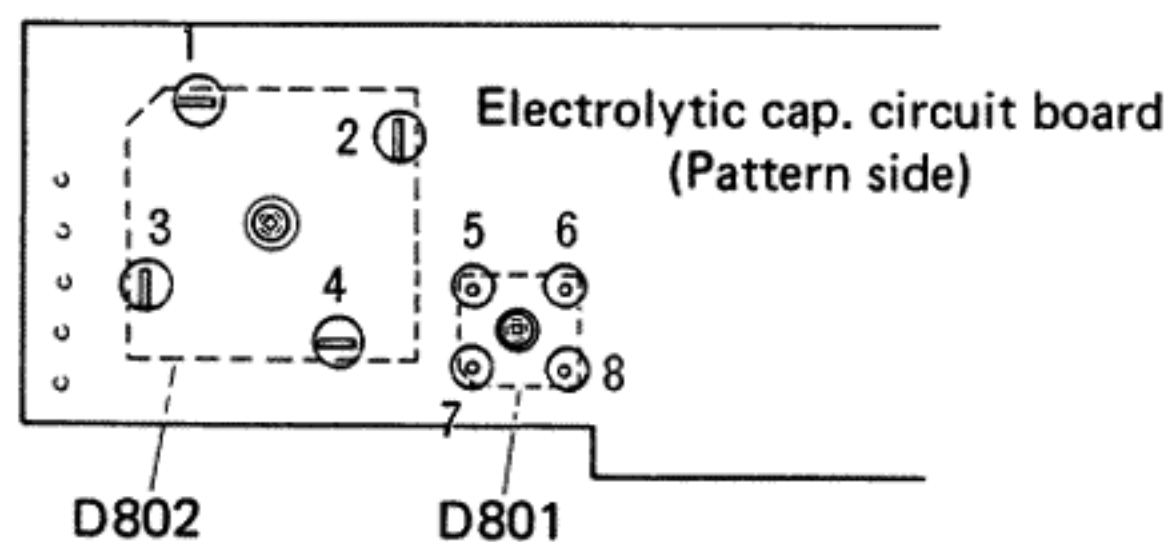

Fig. 10
- Detach the soldering ① through ⑧ of the electrolytic Cap circuit board in Fig. 10, and replace D801 and D802 with heat sink.